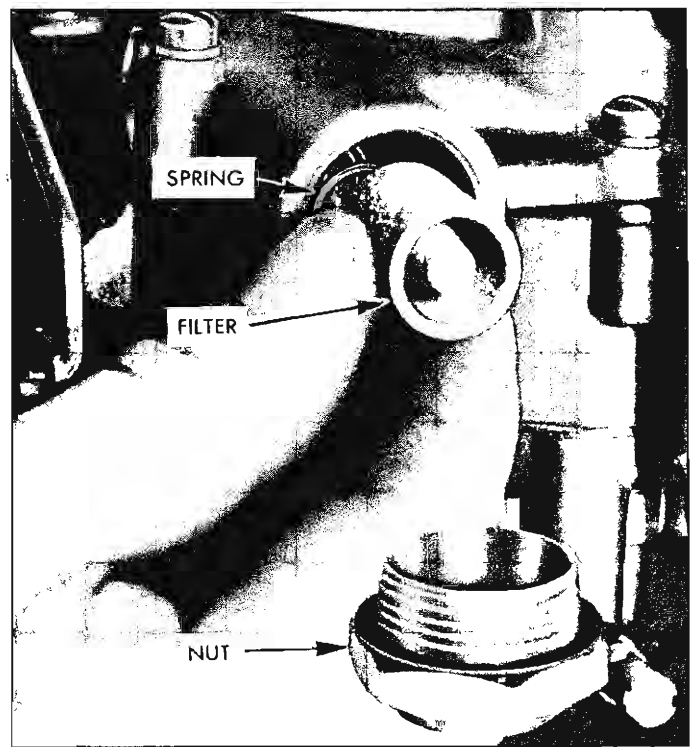

Fig. 39—Inlet Fuel Filter Removal and Installation
**NOTE:** Figure 39 shows proper installation of fuel filter element. Small section of cone faces inlet fuel filter nut.